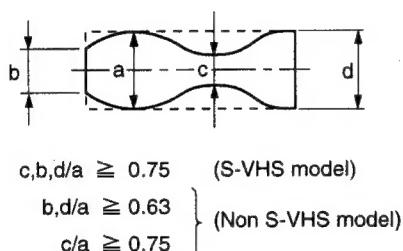

Fig. 2-7-7
3. Make sure the video envelope waveform (in its maximum output) meets the specification shown in Fig. 2-7-7. Again make sure the same by playing back the SP mode 3 MHz video signal on the alignment tape. If not satisfied, adjust as follows:
- Make recordings and playback the tapes E-180 and E-240 in SP and LP modes and make sure the playback output envelope meets the specifications shown in Fig. 2-7-7.